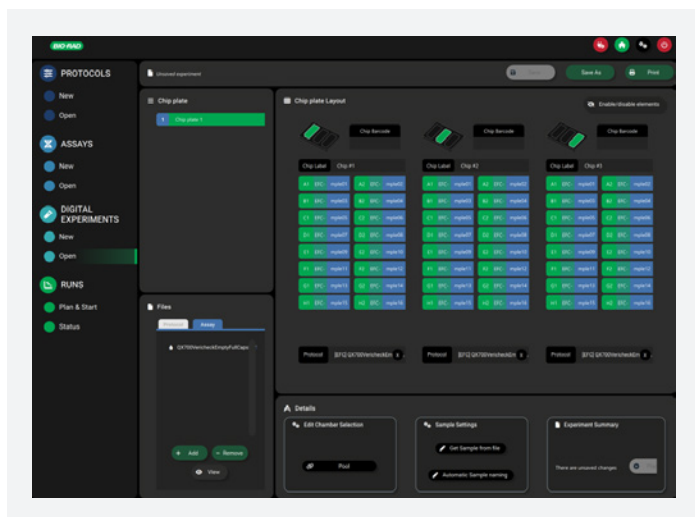

Fig. 2. Example plate setup. Apply a protocol file to all chips and an assay file to all wells.
- Apply the assay file by selecting all wells and dragging the file to all wells. An example plate setup is shown in Figure 2.